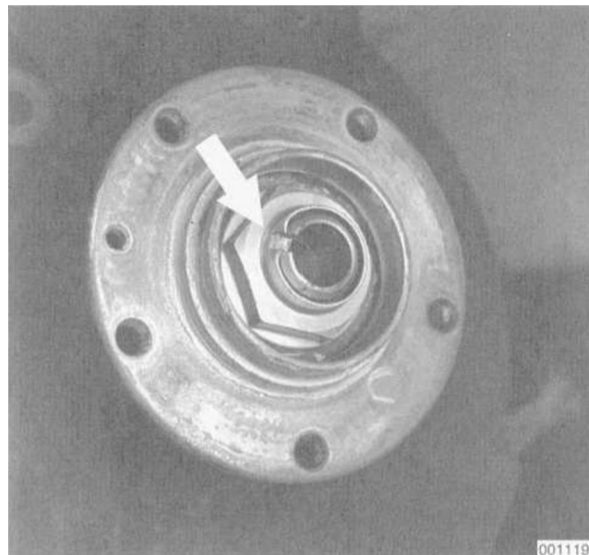

Fig. 10. Staked part of collar nut bent back (arrow)
3. Bend back the staked part of the wheel hub collar nut. See Fig. 10.
15. Tighten the collar nut and then stake the nut to the axle. See Fig. 10 given earlier.